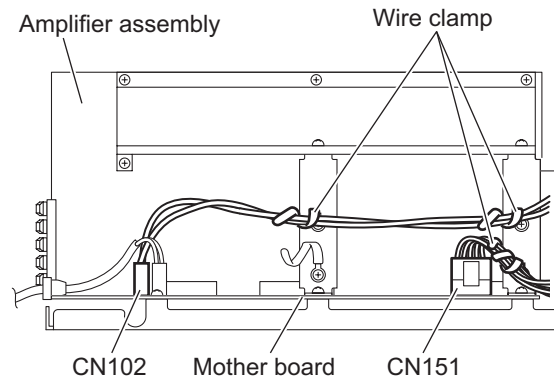

Fig.14
3.4.10 Removing the power transformer (See Figs.14 and 15)
- (1) From the top side of the amplifier assembly, disconnect the wires from the connectors CN102 and CN151 on the mother board. (See fig.14)
- After connect the wires from the connectors CN102 and CN151, bundle the wire by the wire clamp. (See Fig.14)